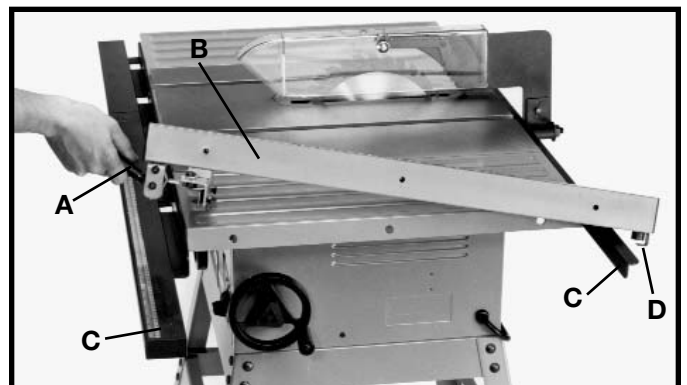
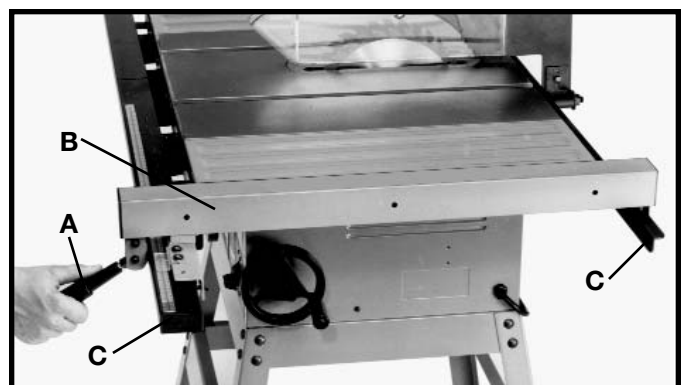

Fig. 39
Fig. 40
1. Make certain the lock handle (A) Fig. 39, of the rip fence assembly (B) is in the up position.
2. Assemble the rip fence assembly (B) to both the front and rear guide rails (C) as shown in Fig. 40. **NOTE: MAKE SURE THE REAR CLAMP (D) FIG. 39 IS ENGAGED WITH THE REAR RAIL (C).**
3. Lock the rip fence (B) Fig. 40, on the guide rails (C) by pushing down on lock handle (A).